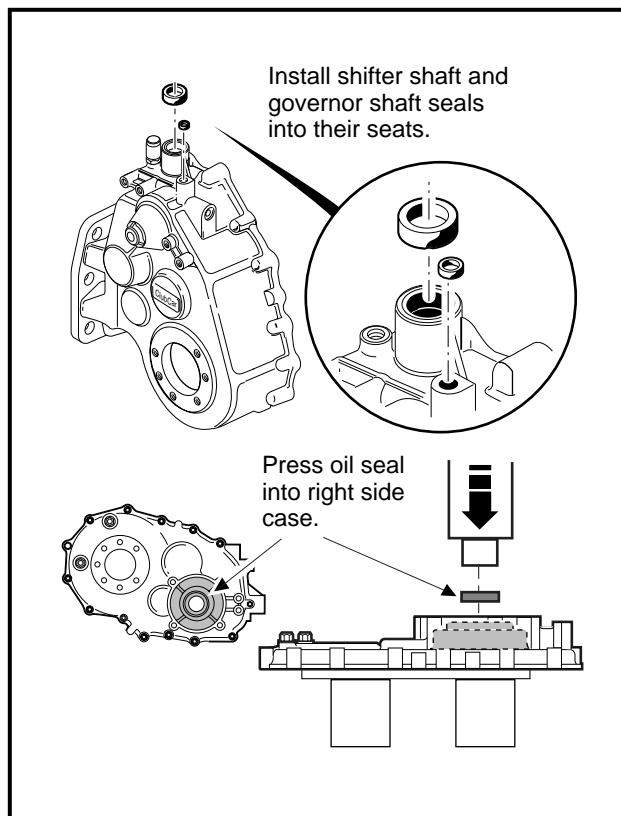

Figure 16-67 Install Seals
2. Put a light coating of clean transmission oil on the outside edge of the seal to make installation easier. Press two new oil seals (13 and 22) (**Figure 16-35, Page 16-14**) into the left (driver) side case. Use an oil seal installation tool (Club Car Part No. 1014160) to install a new oil seal (55) (**Figure 16-42, Page 16-18**) into the right (passenger side) case. **See also Figure 16-67, Page 16-29.**